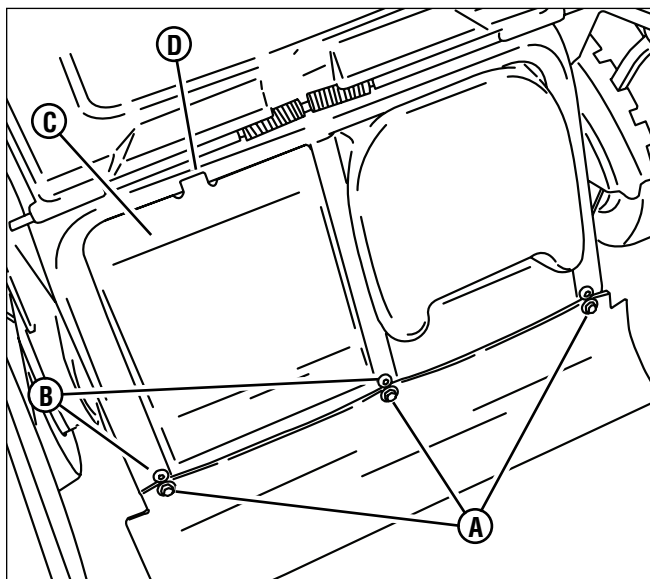

Figure 24: Removing the rear cover
1. Remove the three fasteners **(A)**, Figure 24) securing the rear apron to the machine.